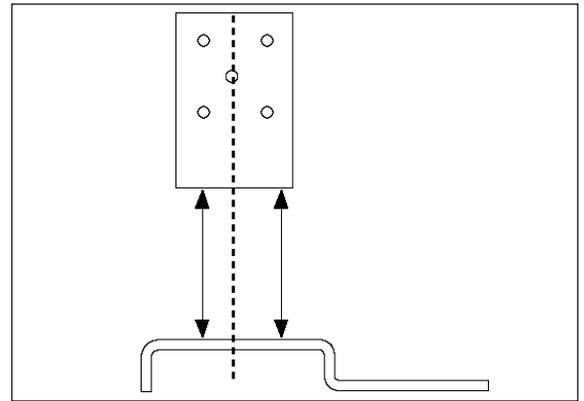
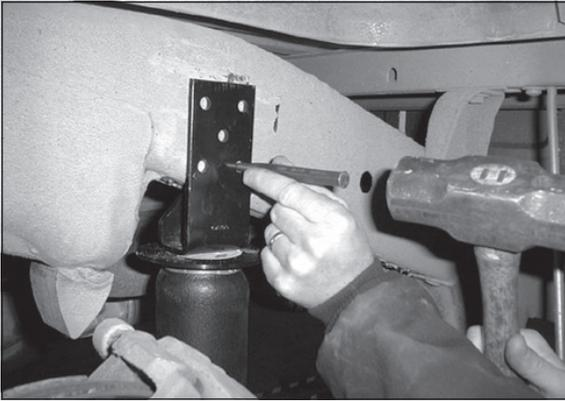

Figure 11
Figure 15
1. The upper bracket (B) must be parallel and perpendicular to the lower bracket (C). See Figures 11 and 12
4. Be sure that the upper bracket is parallel and perpendicular to the lower bracket (Figures 11 and 12). Using the upper bracket as a template, center punch one hole (Figure 15). A welding clamp or C-clamp may assist in holding the upper bracket to the frame.